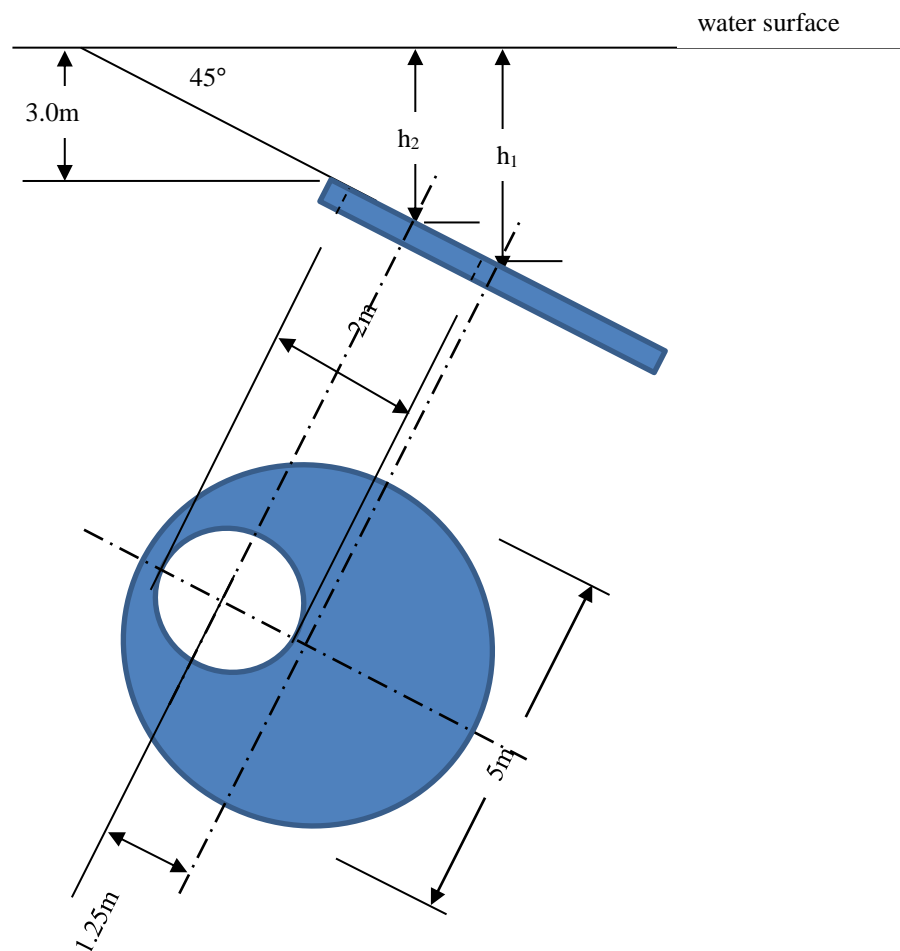

Figure 2
- (b). A circular plate of 5 m in diameter has a circular hole of 2 m diameter with its centre 1.25 m above the centre of the plate as shown in **Figure 2**.